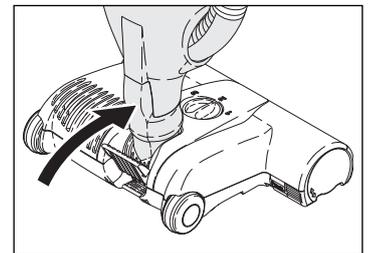
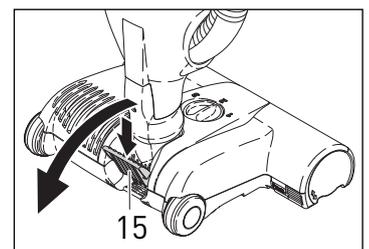
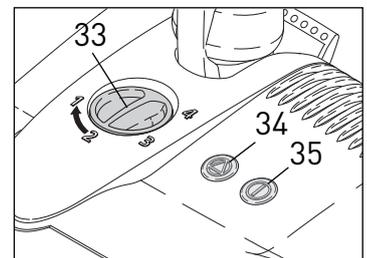

Figure 6
Figure 7
Figure 11
**A.** When the power head is switched on with the swivel neck (figure 6) in the upright locked position, the brush roller will not spin and no lights will show. To release the power head from the upright locked position, press down on the foot pedal (15, figure 7) and lower the swivel neck into the normal operating position. If the brush roller does not start, push the on/off button (35, figure 11). The brush roller will then start spinning and the on/off light on the power head will illuminate in green. If the on/off button is OFF, the light will illuminate yellow. The handle can be lowered to a horizontal position useful for vacuuming under beds.
**B.** To clean delicate or hard floor surfaces with straight suction only, the power head is equipped with an on/off switch (35, figure 11). When this switch is used to turn off the brush roller, the green light will change to yellow, indicating to the user that the brush roller is not turning. Pushing the button again will turn on the brush roller and the light will turn green.
**NOTE:** The brush roller is off and stopped only when the machine is in an upright position and the handle is completely locked in place, or when the hose handle is removed from the side of the vacuum. If you have the machine at an angle, the brush roller will spin. Leaving the machine in a stationary position for an extended period of time while the brush roller is spinning may cause damage to your floor or carpet. You may also switch off the brush roller by pressing the on/off switch (35, figure 11) on the top of the power head.
## Brush Obstruction Light & Auto Shut Off - Figure 11
## The Brush Height Adjustment Feature - Figure 11
## Indicator Lights - Figure 11
By pushing the foot pedal (figure 7) and lowering the handle, you activate the power head and the brush begins spinning. Failure to use the foot pedal will cause lasting damage to the machine. The electronic brush control constantly monitors the status of the brush, communicating the status through the lights on top.
(35, figure 11)
(34, figure 11)